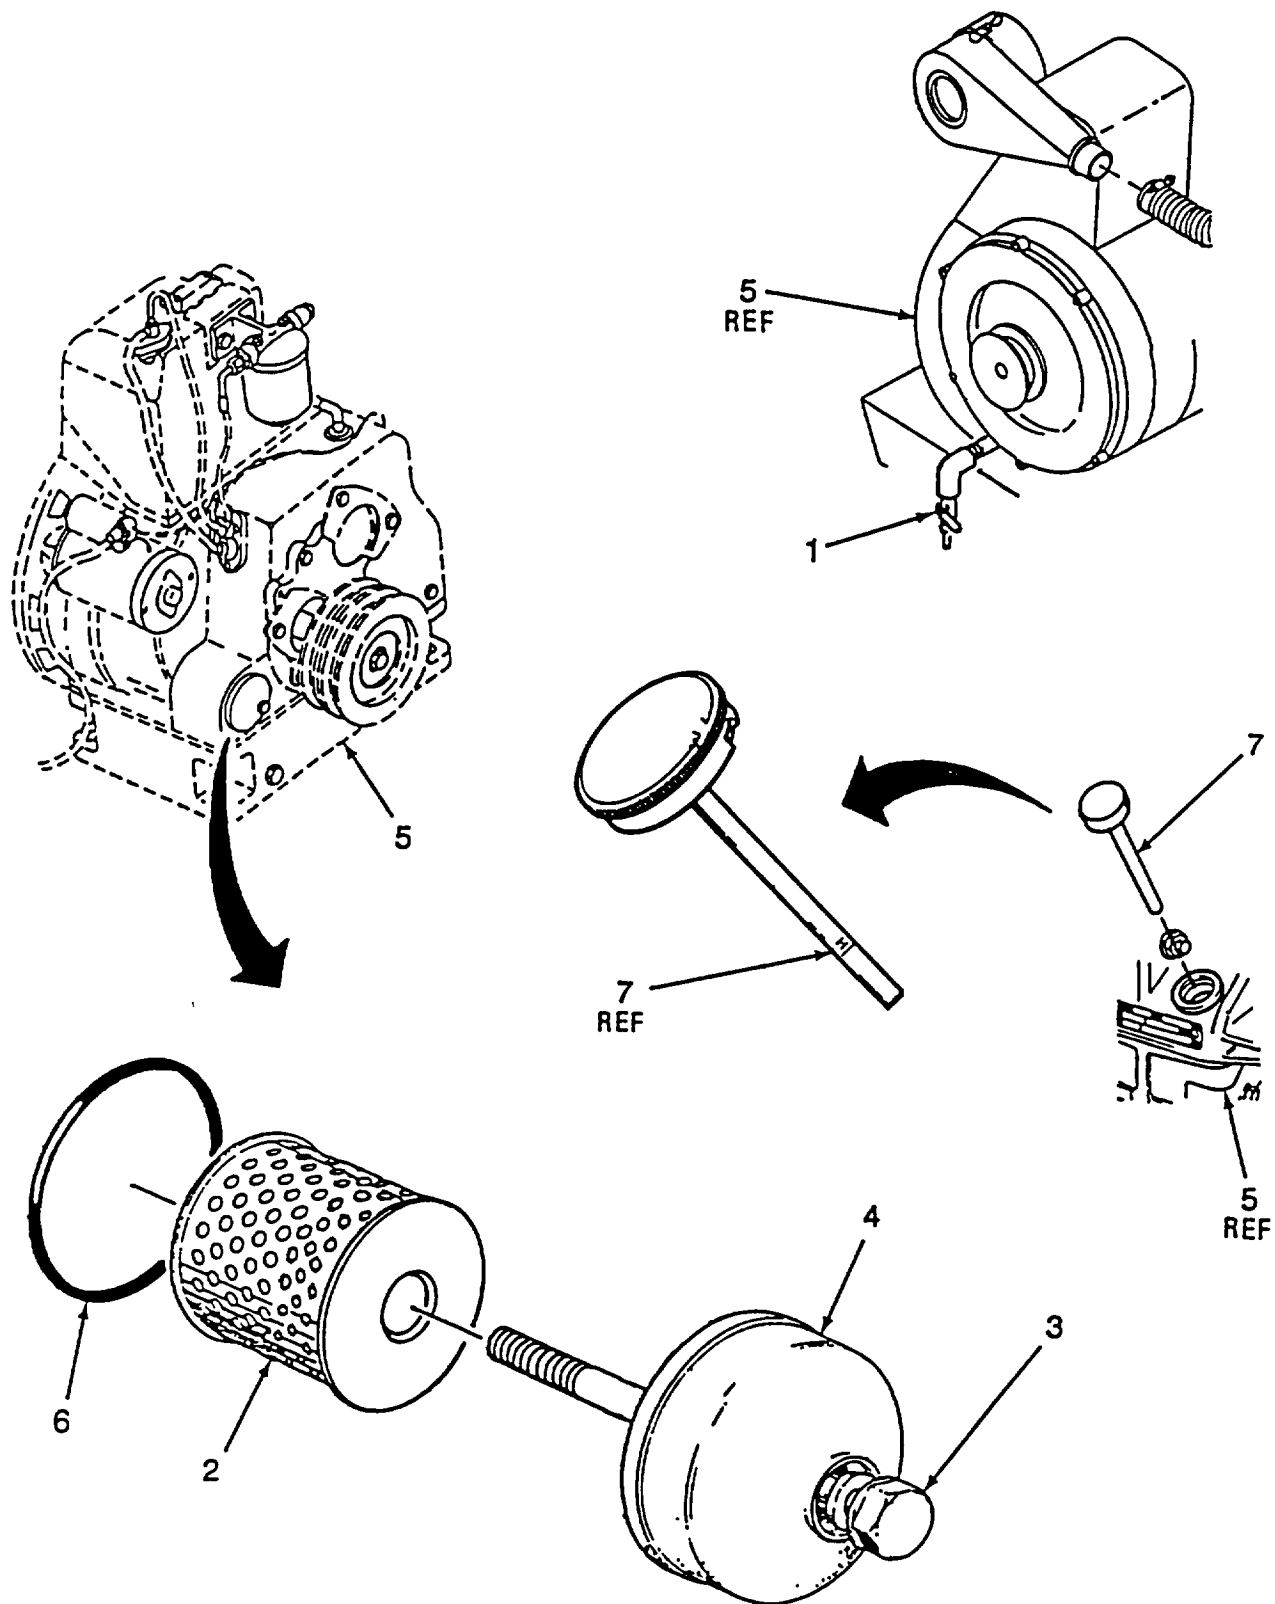

Figure 4-34. Oil Filter Assembly
- (1) Servicing. (Refer to Figure 4-34).